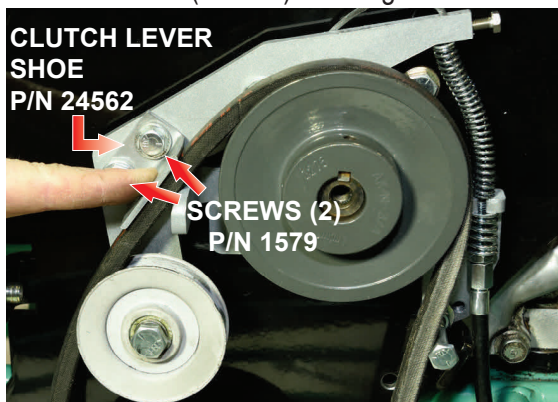

Figure 39. Clutch Lever Shoe Adjustment
4. Press down **lightly** on the clutch lever shoe (P/N 24562) and tighten the two screws (P/N 1579) securing the shoe to 17 ft-lbf (23 N·m). See Figure 39.